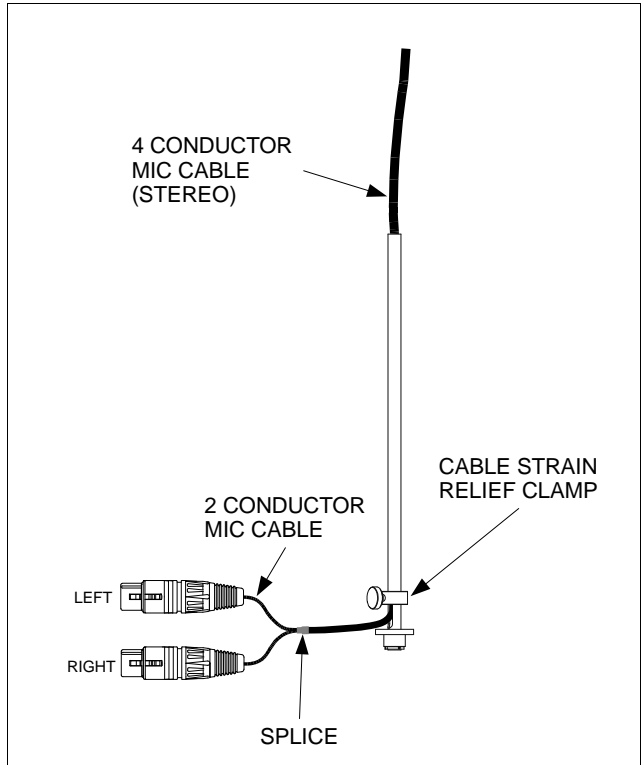

fig. 9 Hanging Adapter Wiring Detail
1. Thread the 4 conductor microphone cable through the wire tube and have it exit through the oval opening. We recommend using the Canare L-4E6S / L-4E5C Star Quad cable for this application. Refer to fig. 9 'Hanging Adapter Wiring Detail'.